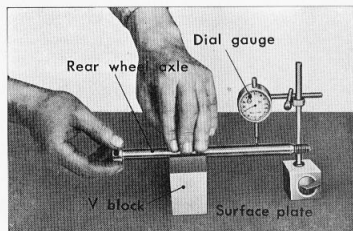

Figure 4-28. Measuring bend in rear axle
- (1) The rim runout and eccentricity is checked in the same manner as the front wheel and to the same standard.
- (2) Check the rear axle diameter for wear and bend. (Fig. 4-28)